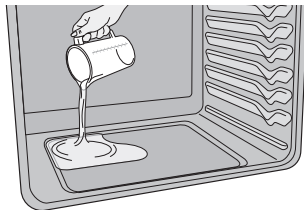

Figure 36: Add 1 cup of tap water
3. Pour 1 cup of tap water onto the oven bottom. (Figure 36) Close oven door.